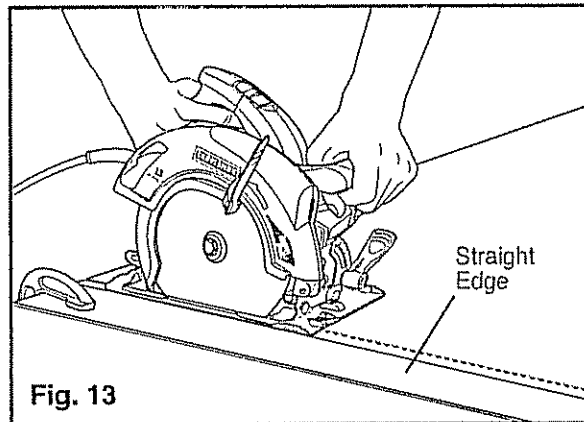

Fig. 13
USING A STRAIGHT EDGE (Fig. 13)
2. Carefully guide the saw along the straight edge for a straight rip cut (see Fig. 13).